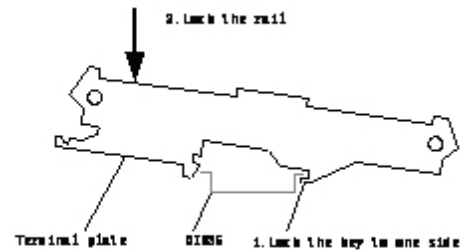

Figure 2-49 Installation
3. Connect field wires and cables to terminal template as shown in Figure 2-49.